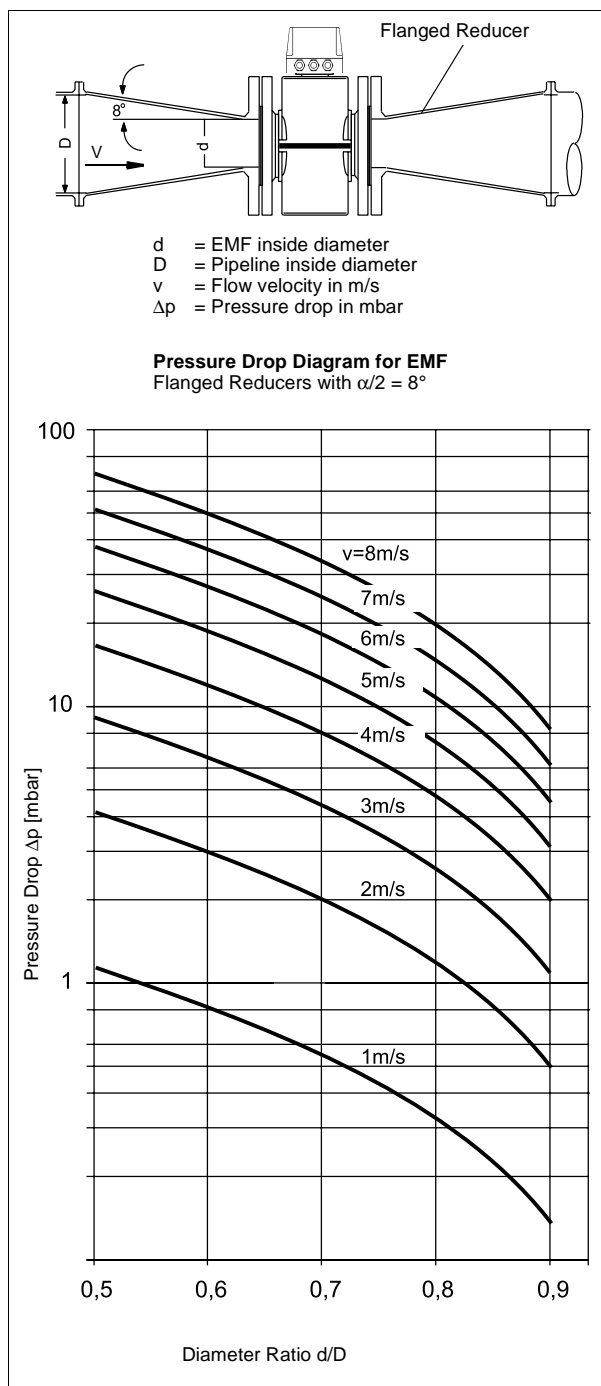

Fig. 12 Nomograph for Pressure Drop Determinations
The flowmeter can readily be installed in larger size pipelines through utilization of flanged transition sections (e.g. Flanged Reducers per DIN 28545). The pressure drop resulting from the reduction can be determined from the Diagram Fig. 12 using the following procedure:
3. The pressure drop can be read on the -Y- axis at the intersection of the flow velocity value and the "Diameter Ratio d/D " value on -X- axis in Fig. 12 .